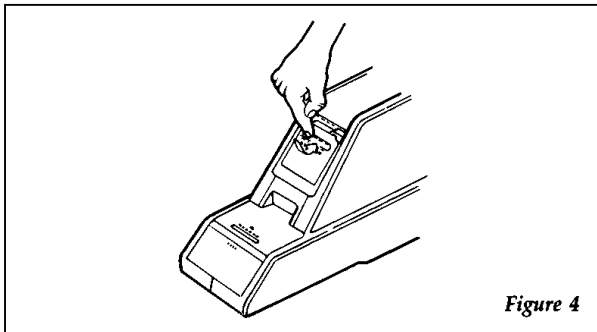

Figure 4
6. By properly adjusting the actuation peg height, you will be able to actuate your garage door by pressing the door as shown (Figure 4).